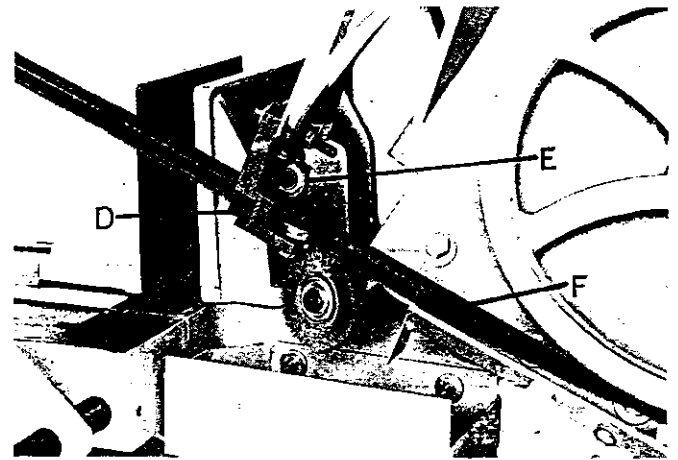

FIG. 2
8. Work the blade (F) all the way up into the tungsten blade guides (D) with the back of the blade against the back-up bearing (E), as shown in Fig.2